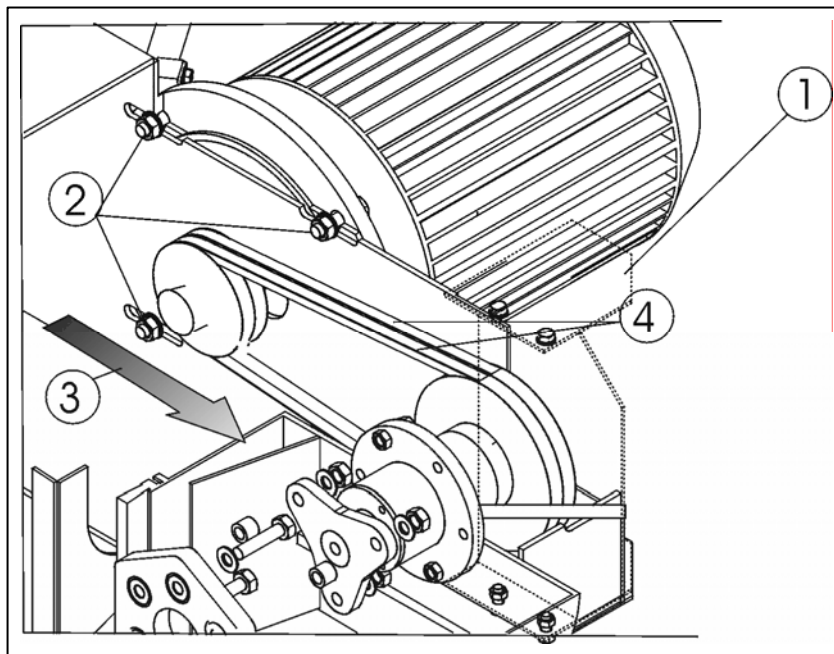

Fig. 7.4 (electric unit shown)
**Disassembly (refer to figure 7.4 on previous page):**